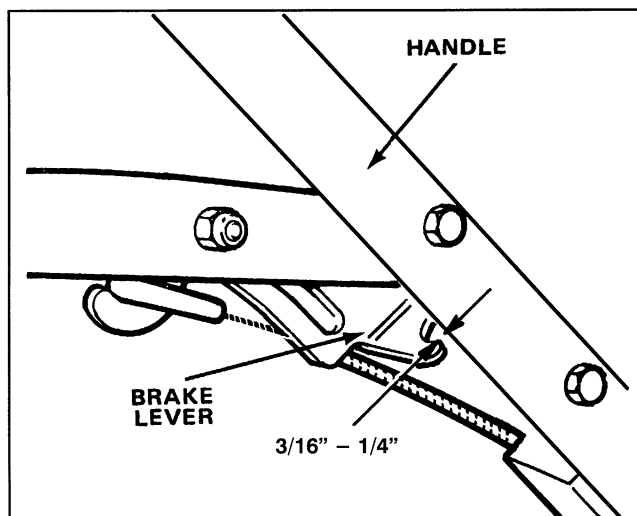

Figure 30
2. CHECK ADJUSTMENT (Fig. 30)—Move control bar toward handle until slack in wire is removed. Gap between brake lever and handle must be $\frac{3}{16}$ " – $\frac{1}{4}$ ". See step 3 for adjustment.
3. ADJUST CABLE CONDUIT (Fig. 30)—Loosen nut on cable bracket. Insert $\frac{3}{16}$ " – $\frac{1}{4}$ " object between brake lever and handle. Pull down on cable conduit until all slack is removed from wire. Then tighten nut.